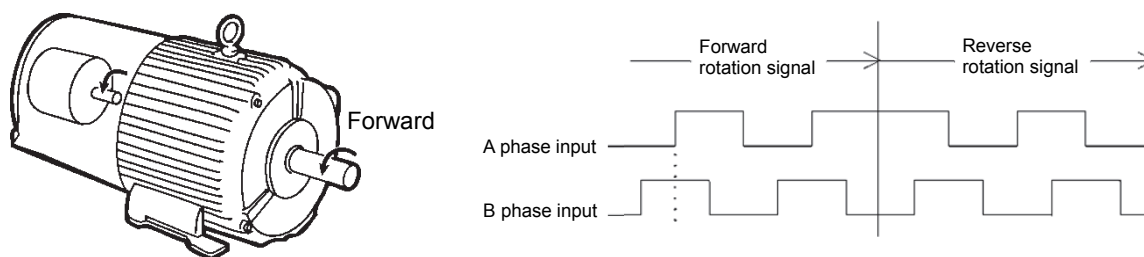

Figure 4.8-2 Forward Rotational Direction of Motor and PG (Pulse Generator)
Fuji regards the CCW as the forward rotation direction viewed from the motor output shaft as shown in Figure 4.8-2. During rotation in the forward direction, the PG output pulse forms a forward rotation signal (B phase leads by 90 degrees) as shown in Figure 4.8-2, and during rotation in the reverse direction, a reverse rotation signal (A phase leads by 90 degrees).
**Note** In the case of using motors which comply with IEC standard, their rotation directions are opposite to that in Figure 4.8-2.